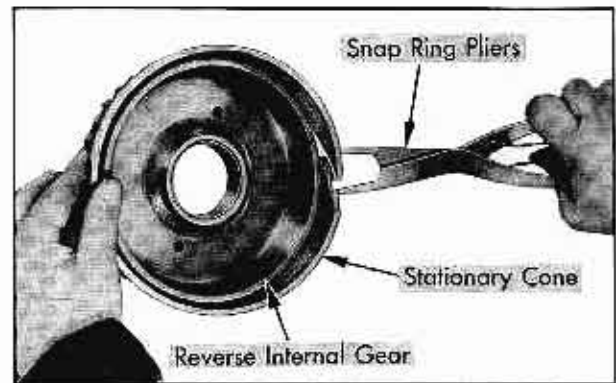

Fig. 14-38 Removing Stationary Cone
17. Remove reverse stationary cone from reverse internal gear by using large snap ring pliers to expand cone. Fig. 14-38.